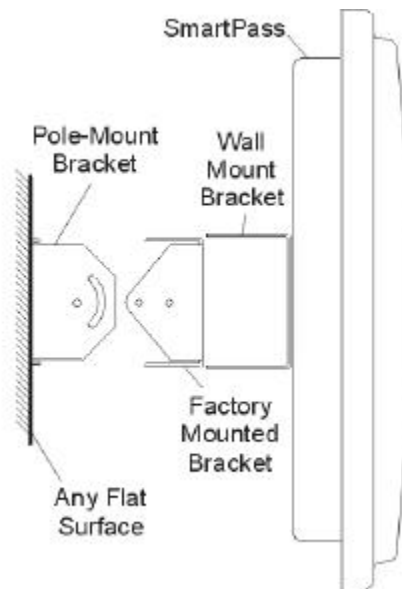

Figure 8-9 Connecting SmartPass Assembly to Pole Mount Bracket
9. Mount SmartPass to the pole mount bracket using machine screws, as shown in Figure 8-9.